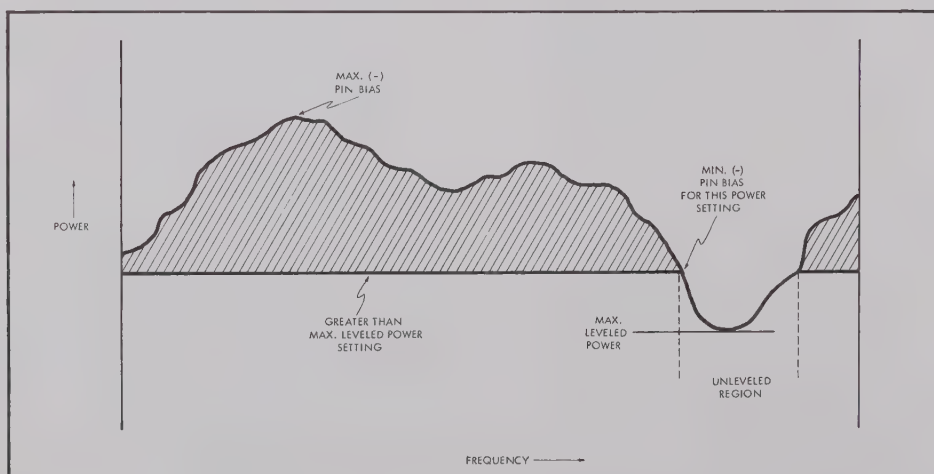

FIGURE 4-5. EFFECT OF SETTING OUTPUT TO GREATER THAN MAXIMUM LEVELED POWER.
4.4.5 OPERATION AT OUTPUT LEVELS ABOVE THE MAXIMUM LEVELED POINT (See Figure 4-5). When operating in the leveled mode, if the rf output power is adjusted to greater than maximum leveled power, the Leveler-Amplifier will attempt to reduce the PIN Attenuator control voltage below its minimum level when rf power drops below the output setting (see Figure 4-5). The control-voltage-minimum-limit feedback developed by A5CR1 will prevent Q7 from saturating when attempting to reduce PIN bias below its minimum. As a result, the Leveler-Amplifier response is improved to provide a smooth transition between leveled and unleveled portions of the sweep.